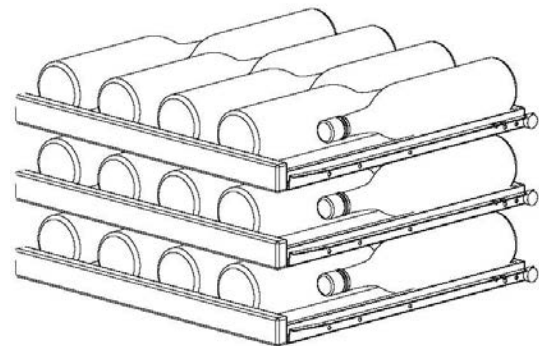

Figure 12
The five (5) upper shelves each hold eight (8) bottles in a front to back fashion. See Figures 12 and 13 for typical wine bottle spacing. The bottom shelf holds four (4) bottles in a side to side fashion.